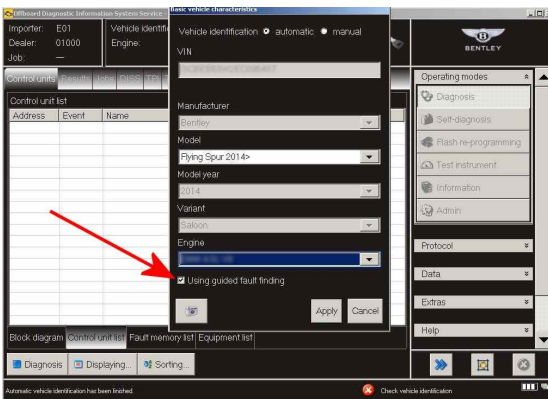

Figure 5
- Ensure the Using guided fault finding box is ticked (Figure 5) – follow all on screen prompts and allow the guided fault finding control module sweep to complete